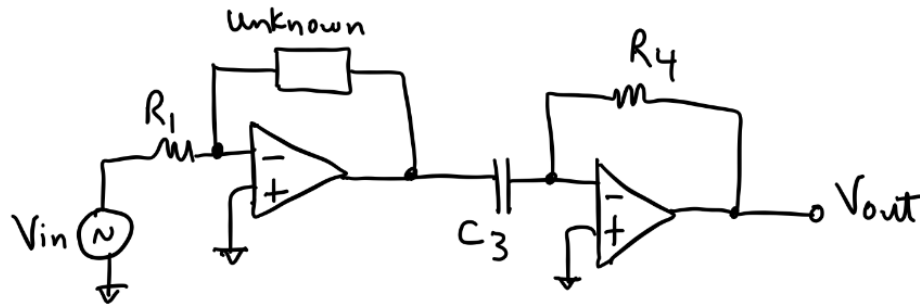

Figure 3. Circuit for Problem 3.
3. Consider the circuit shown in Figure 3 below, constructed with ideal opamps.
Here, $R_1 = 5 \text{ k}\Omega$, $C_3 = 800 \text{ nF}$, and $R_4 = 15 \text{ k}\Omega$. Additionally, the circuit of Figure 3 contains an unknown element (R , L , or C), which you are to determine below.
The following measured data were obtained from the circuit of Figure 3: